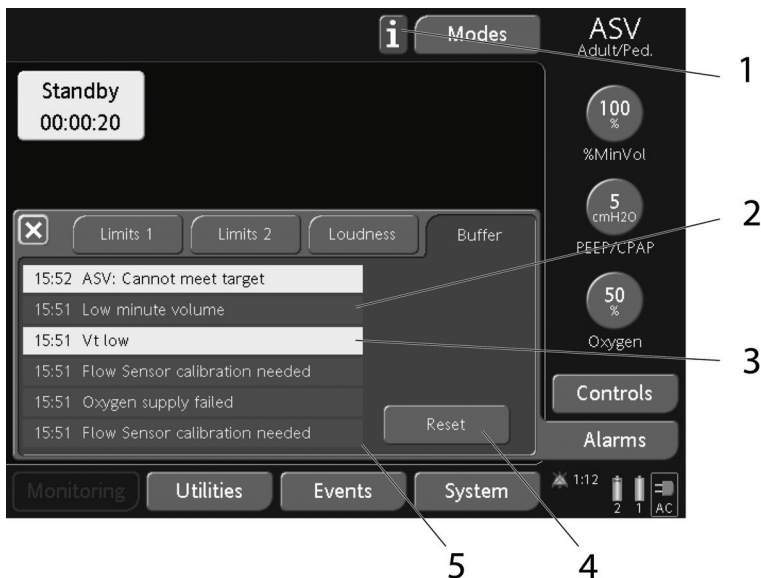

Figure 8-5. Alarm buffer with inactive alarms
- If no alarms are active, the alarm buffer shows the most recent inactive alarms (Figure 8-5). Inactive alarms are in boxes with square corners.
Open the **Alarms** -> **Buffer** window with the **Buffer** tab, by touching the message bar in the upper left-hand corner, or by touching the inactive alarm indicator (Figure 8-5). The most recent alarm is at the top. You can clear the alarm messages for all inactive alarms with the **Reset** button. Closing the buffer does not erase its contents.